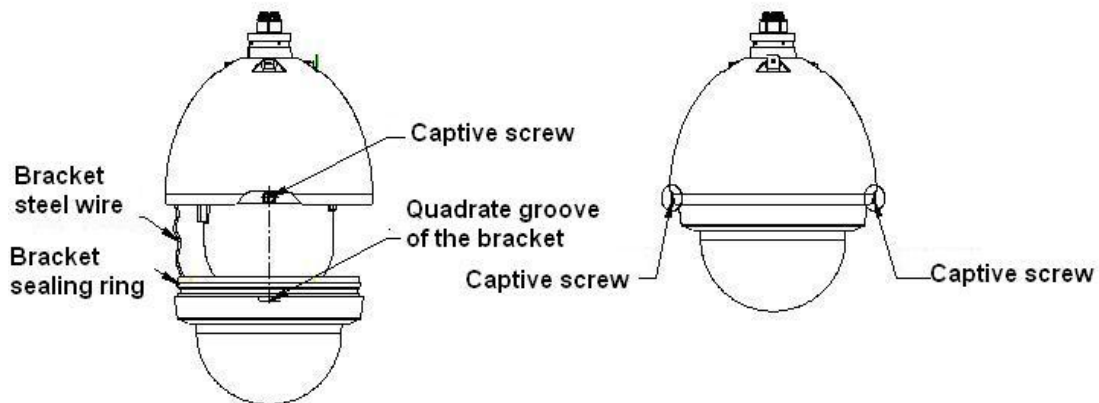

Figure 1-3
- b. Please line up the captive screws to the quadrate groove of the bracket and then push the bracket into the internal enclosure. Fix these two captive screws. See Figure 1-3.